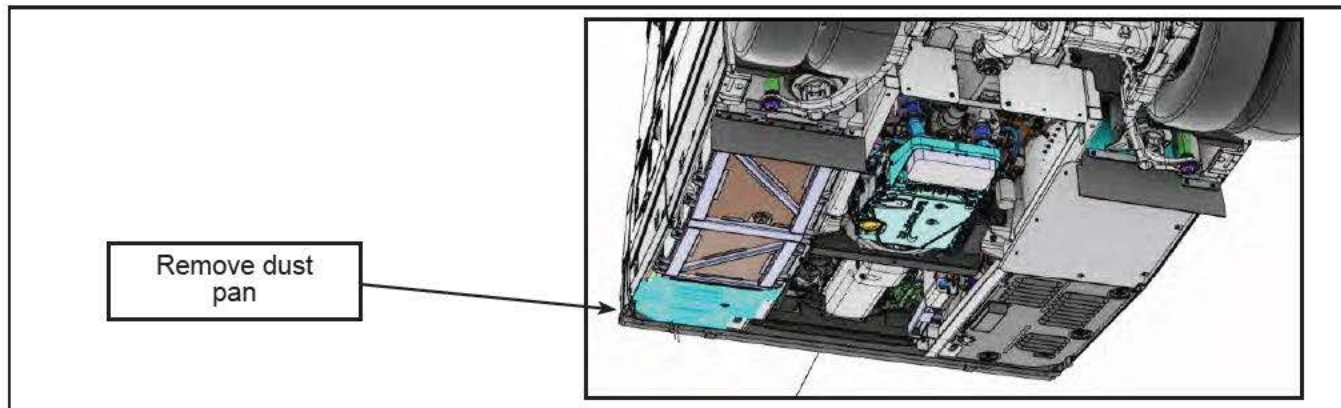

Figure 5 - Remove Dust Pan
- 1.15. Remove the dust pan shown in Figure 5.